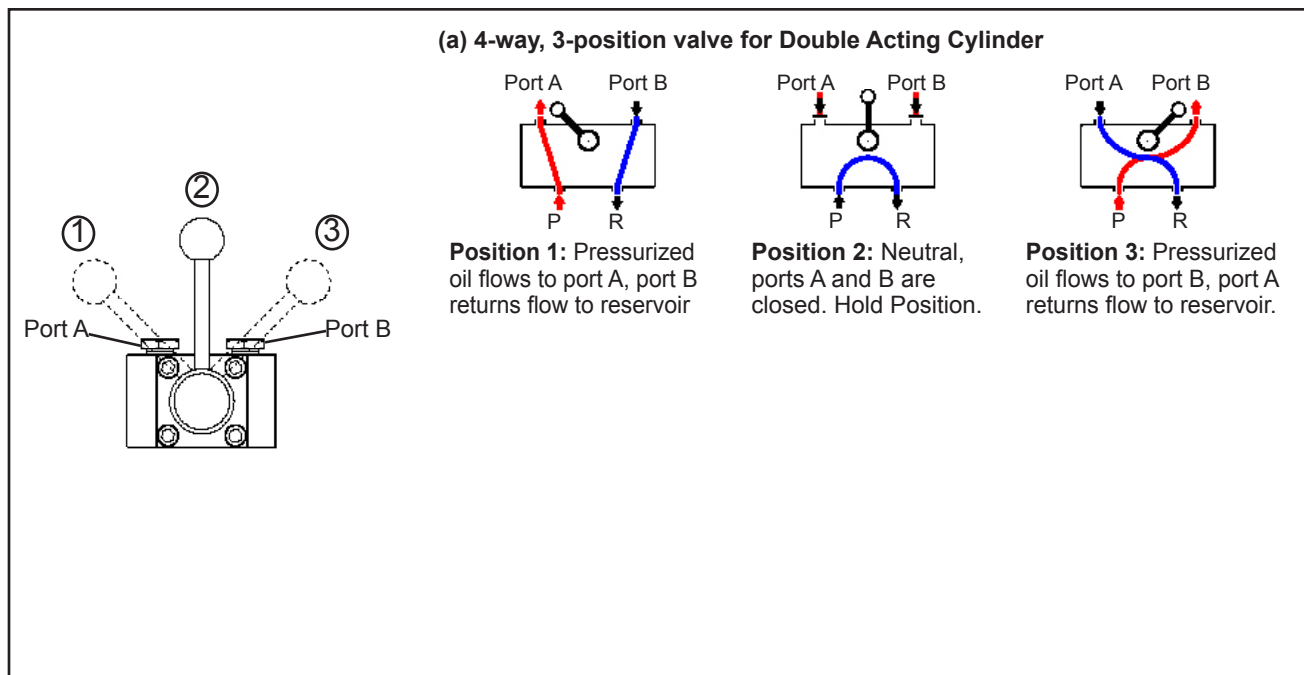

Figure 4 - Flowpath of the valve positions and operations for Model 5HD2S100
4. Use the control valve lever to control the direction of hydraulic oil flow, refer to Figure 4(a) below. Pump handle until desired pressure, load or position is reached.